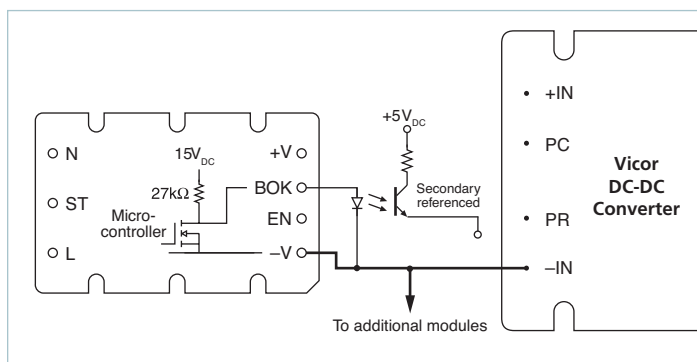

Figure 12 — Bus OK (B OK) isolated power status indicator
| Off-state voltage | 12 | 14 | 16 | V_{DC} | Bus abnormal, 27k Ω internal pull up to 15 V_{DC} (Figure 12) |
Bus-OK (B OK) Pin: (see Figure 12) The Bus-OK pin is intended to provide early-warning power fail information and is also referenced to the negative output pin.
The power fail warning time (Δt) is defined as the interval between (B OK) and converter shut down (EN) as illustrated in Figure 12. The Bus-OK and Enable thresholds are 205V and 190V, respectively. A simplified relationship between power fail warning time, operating power, and bus capacitance is obtained by inserting these constants: